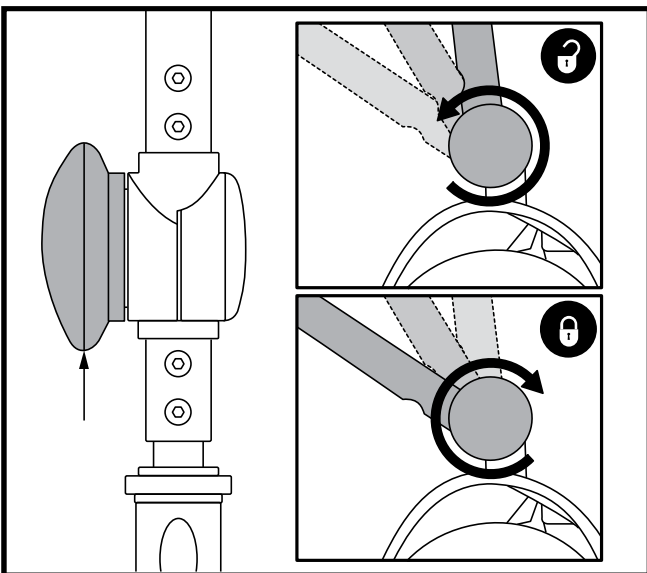

Figure 24. Tiller Adjustment Knob
TILLER ANGLE ADJUSTMENT (See figure 24)
1. With the seat and battery pack removed (see Disassembly Procedures on previous page), lower the tiller and tighten the tiller adjustment knob. See figure 24.
3. Raise the tiller and fully tighten the tiller adjustment knob. See figure 24.